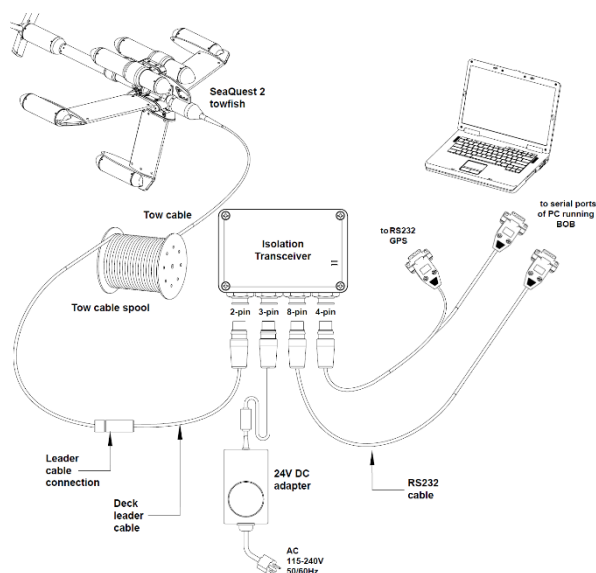

Figure 1-3 - SeaQuest2 System components with a GPS-enabled Isolation Transceiver.
- Note that the altimeter is located in the nose bulkhead, approximately 0.76m higher than the lowest point of the vertical wing. Be sure to account for this 'draft' when interpreting the altitude readings, to avoid striking the bottom with the keel sensor (See Figure 1-3).